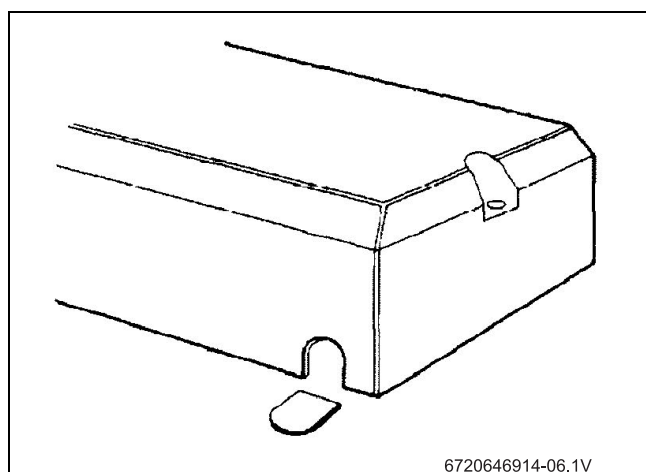

Fig. 7 Cover lug cut out
- ▶ If it is going to be through the cover bottom, cut out the plastic lug to expose the rubber sleeve (Fig. 7):